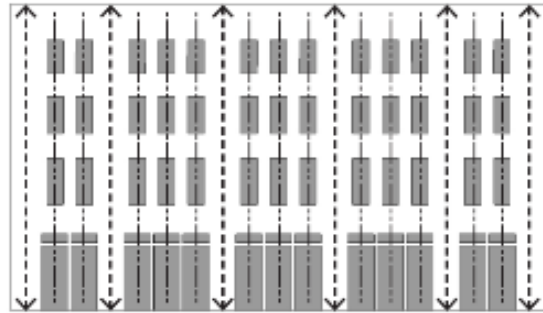

Figure 7: Structural & Window Centerlines
c. Centerlines. The vertical centerlines of structural columns and walls, as well as windows (fenestration) shall be used to better the building facade (Figure 7).